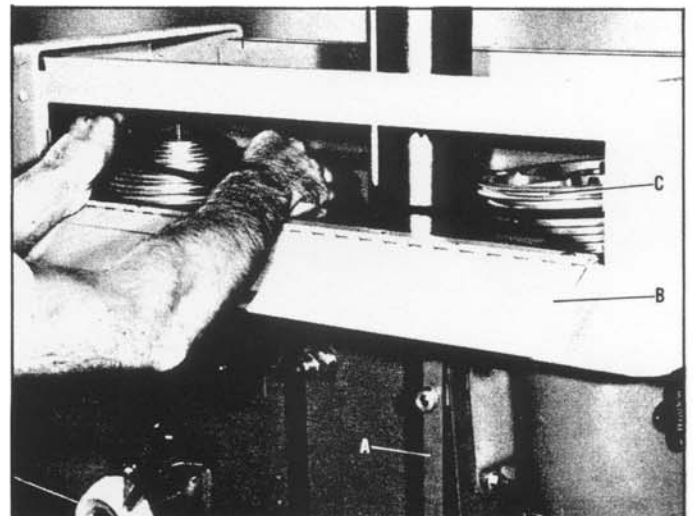
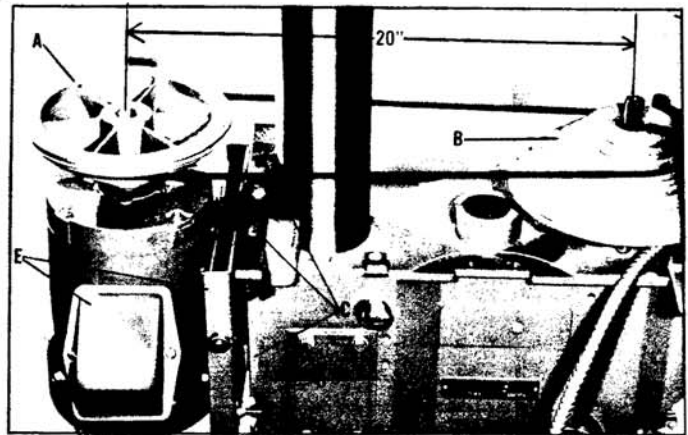

Fig. 5
Fig. 6
2. Loosen wing nut located on the opposite end of the plate (A) Fig. 5. (This wing nut is shown at (D) Fig. 6.) The motor and motor plate can then be tilted forward, as shown in Fig. 5, releasing the belt tension.
3. Open the door (B) Fig. 5, tilt the motor pulley (C) forward, and move the belt to the desired steps on the motor and spindle pulleys, as shown in Fig. 5.
4. After the belt is positioned on the pulleys, close the door (B) Fig. 5, and tighten the wing nut located on the opposite end of the plate (A) to keep the motor pulley, motor and motor plate in the vertical position.
The correct belt tension is determined by the center to center distance of the motor pulley (A) and the spindle pulley (B) Fig. 6. If it ever becomes necessary to adjust belt tension, proceed as follows:
2. Loosen the three screws (C) Fig. 6, and while making sure the motor pulley (A) is in parallel alignment with the spindle pulley (B), move the motor and motor plate (E) in or out until the center to center distance between the motor and spindle pulley is 20", as shown in Fig. 6. NOTE: For clarity Fig. 6 is shown with the belt guard removed.